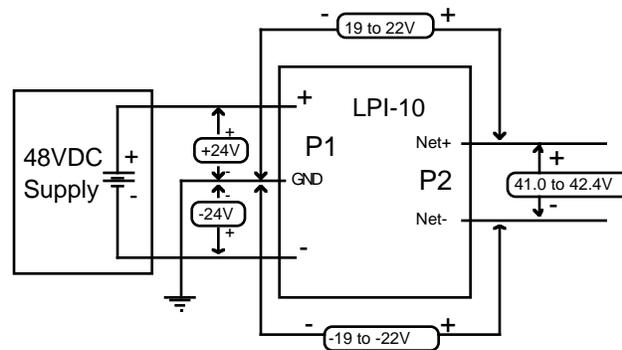

Figure 2.5 Normal LPI-10 Terminal Voltages
1. Set the meter to the DC Voltage scale. Connect the meter (+) lead to the "Net+" connector of P2. Connect the meter (-) lead to the "Net-" connector of P2. With 48V power applied to the LPI-10 module, you should observe a reading between 41.0V and 42.4V - see figure 2.5 below. Note that the full differential output voltage cannot be observed until approximately six seconds following input power application. A reading outside of these limits indicates that the network is shorted or that the LPI-10 module has failed. If necessary, disconnect the network at P2 and observe the resulting voltage.
2. Connect the meter (+) lead to the "Net+" connector of P2. Connect the meter (-) lead to the "GND" connector of P1. A reading between 19V and 22V should result. Likewise, with the meter (+) lead connected to the "Net-" connector of P2 and the meter (-) lead connected to the "GND" connector of P1, a reading between -19V and -22V should result - see figure 2.5. A reading outside of these limits indicates that the power supply output is not floating, the LPI-10 module is damaged, or that the network, if connected, is unbalanced (not floating). If possible, disconnect the network at P2 and observe the resulting voltage.